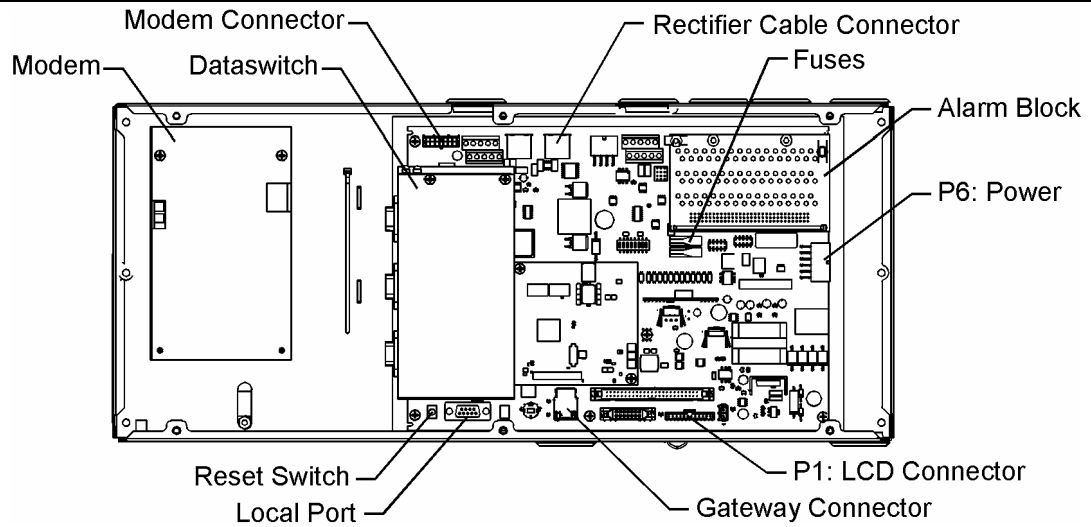

Figure 6-6: Millennium II Connections
a. Inside of the controller housing, determine if a Modem card is installed. It will be located to the left of the MCR1 board. (see Figure 6-6)
4.	<p>a. On the controller, locate the BSL alarm block. It is located in the upper right hand corner of the MCR1 board. (see Figure 6-6)</p> <p>NOTE: It is very important, in the next step, to follow the Alarm Input/Output table in this manual when connecting the alarms. Some Pins may have changed their function.</p> <p>b. Route the alarm wires through the open holes above the alarm block and terminate them accordingly. You may need to reference the Millennium II Alarm Input/Output section for proper connections.</p>
5.	<p>NOTE: F1 is the bottom of the two fuses.</p> <p>a. Using a fuse puller, remove F1 on the MCR1 board. This is the controller power fuse. (see Figure 6-6)</p> <p>b. Next, locate P6 at the right hand corner of the MCR1 board. (see Figure 6-6)</p> <p>c. Route the J6 power connector through the top right opening of the controller housing. Secure this to P6.</p> <p>d. Using a fuse puller, install F1 on the MCR1 board.</p> <p>e. Observe the controller power up sequence.</p>